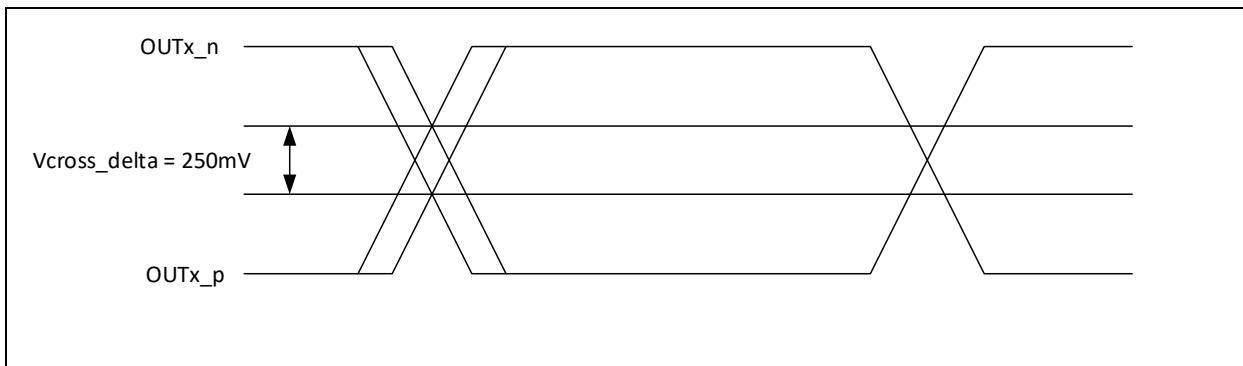
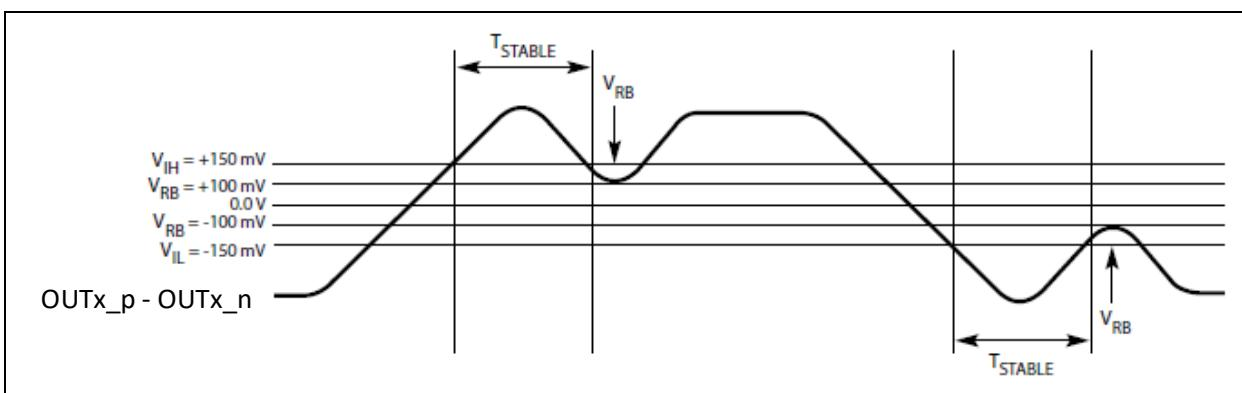

Figure 19. Single-Ended Measurement Points for Delta Cross Point
Figure 22. Differential Measurement Points for Ringback
(9) Defined as the total variation of all crossing voltages of Rising CK and Falling CK# This is the maximum allowed variance in VCROSS for any particular system. See Figure 19.
(10) The PPM requirement from PCI Express Base Specification, Revision 4.0 is related to clock generation devices. This requirement is not applicable to buffers because buffer's output frequency accuracy is identical to the frequency accuracy of the source driving the buffer.
(11) T_{STABLE} is the time the differential clock must maintain a minimum ±150 mV differential voltage after 20 rising/falling edges before it is allowed to drop back into the VRB ±100 mV differential range. See Figure 22.